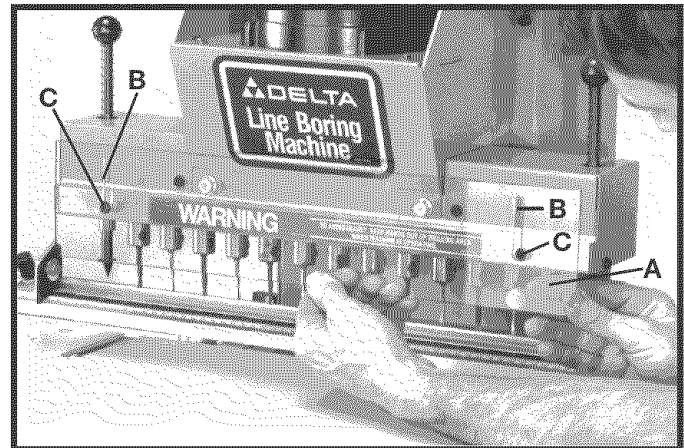

Fig. 39
2. Assemble the clear plastic guard (A) Fig. 39, to the front of the boring head making sure the two slots (B) are engaged with the two spacers and screws (C). **IMPORTANT:** It will be necessary to bend the guard (A) outward slightly at the center, as shown, when assembling the guard.